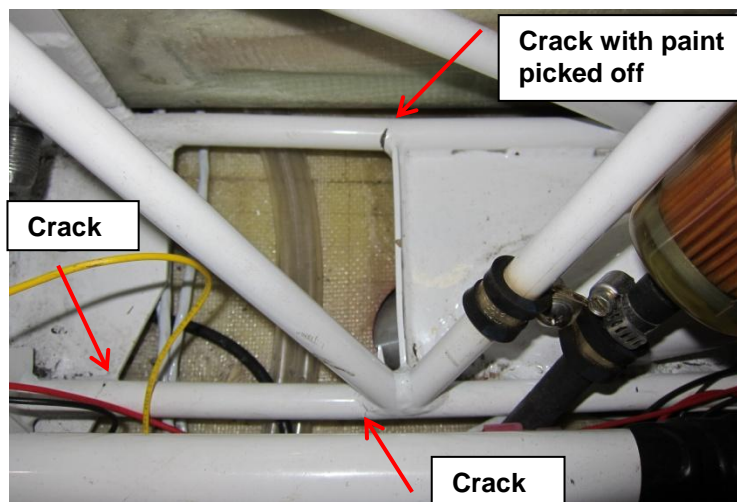

Figure 1: Cracks on Left (Pilot's) Side of Spar Box
If you had a flying Lightning or one that was nearly finished with the LSA gear you were likely a bit concerned when you received the Arion Lightning Service Bulletin (SB) AASB-1-12-2012 in January of 2013. I know I was concerned. I had done a condition inspection in October of 2012 and although I saw some paint cracks on the spar box structure (or so I thought) and had asked my local A&P about it, we believed them to be cracked paint and did not investigate further. After reading the SB, I knew that what I had seen was not just cracked paint, but a more serious problem. So, I went out to the airport and made a more thorough inspection. I picked some of the paint off and indeed found cracks in my spar box (see Figure 1).